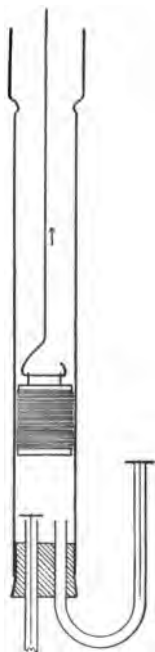

FIG. 11
69. *Force pump.* Fit a 2-hole stopper into the tube (Ex. 68). Remove it. Into one hole fit a straight glass tube and into the other a U-shaped tube, both to open outward from the big tube. (See Fig. 11.) Cut a bit of leather twice the diameter of the small tubes, run through its center a long, straight wire, and cover the inner opening